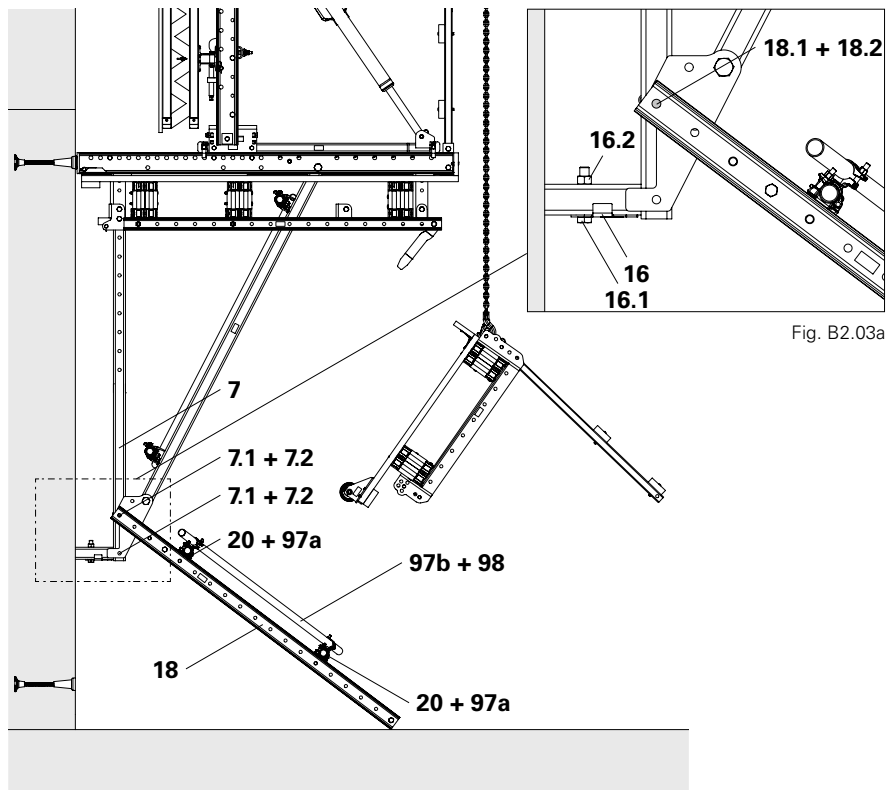

Fig. B2.03
6. Fix 2x Scaffold Tube Steel 48.3 x 3.2 (97a) respectively to the Scaffold Tube Connectors SCS 48 (20).
7. Diagonally fix Scaffold Tubes Steel 48.3 x 3.2 (97b) to the horizontal scaffold tubes (97a) using Swivel Couplings DK 48/48 (98) (see Section B1.7). (Fig. B2.03)